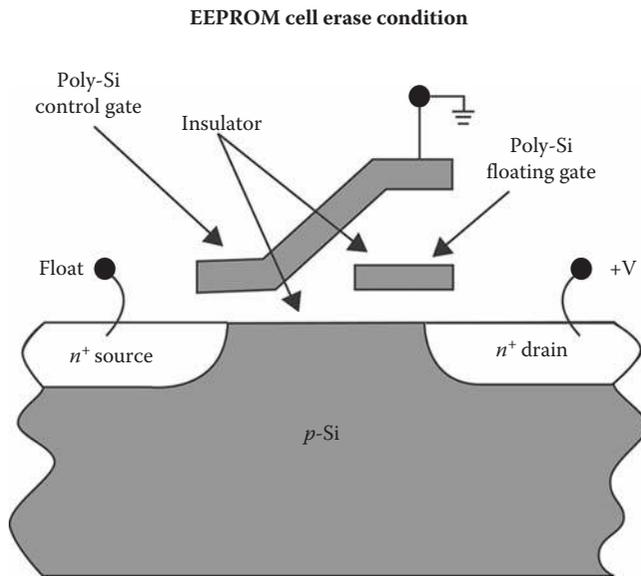

FIGURE 6.18
The very first ROMs were fairly primitive hardwired devices that contained a pre-programmed set of instructions. The contents of the ROM had to be specified before IC manufacturing began so that the actual data to be stored could be used to hardwire the connections to the transistors inside the ROM by use of the various metalization layers. One step up from this primitive ROM is the PROM (programmable ROM), which is manufactured and purchased in an unprogrammed state. If you examined the contents of an unprogrammed PROM, you would see that the data are made up entirely of "1s" (not very useful). The process of writing your data to the PROM involves a special piece of equipment called a "device programmer" or "PROM writer." The PROM writer electrically writes data to the PROM one binary word at a time by applying a voltage to the input pins of the chip. Once a PROM has been programmed in this way, its contents can never be changed, and thus if the code or data stored in the PROM need to be changed, a trash can is the only option. An EPROM (erasable-and-programmable ROM), on the other hand, is programmed in exactly the same manner as a PROM; however, EPROMs can be erased and reprogrammed repeatedly. To erase the EPROM, you simply expose the device to a strong source of ultraviolet (UV) light. An easy indicator that you have an EPROM in your hands is the transparent window in the top of the package that allows the UV light to reach the transistors. After UV exposure, you essentially reset the entire chip to its initial unprogrammed state. This is getting handy now, although carrying around a strong UV lamp (can you say "tanning bed") is admittedly a bit cumbersome! EEPROMs (electrically erasable-and-programmable ROMs) read: "double-E-prom") represent the top of the ROM ladder, and are electrically erasable and programmable. Internally, they are similar to EPROMs, but the erase operation is accomplished electrically, rather than by exposure to UV light. In addition, data within an EEPROM can be selectively erased and rewritten, many times. Once the EEPROM is written, the new data are permanent. How on earth do we electrically erase and program a ROM memory? Very cleverly! In essence, we embed a second gate within the MOSFET and make it electrically floating (not connected to anything). As shown in Figures 6.18 and 6.19, we can then change the terminal voltages to induce electrons either into or out of the floating gate, changing the properties of the ROM cell transistor (i.e., shift the turn-on or threshold voltage of the device). For the not-so-faint-of-heart, this all happens via quantum-mechanical tunneling.